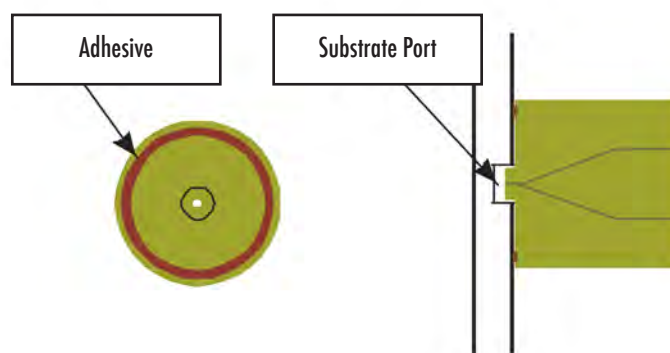

Figure 7. Bonded port glue application and alignment.
2. Using a small wire or piece of fused silica capillary apply the epoxy mixture to the outer edge of the bottom of the bonded port connector (Figure 7).
3. Align centering nub with center of via hole in chip (Figure 7).